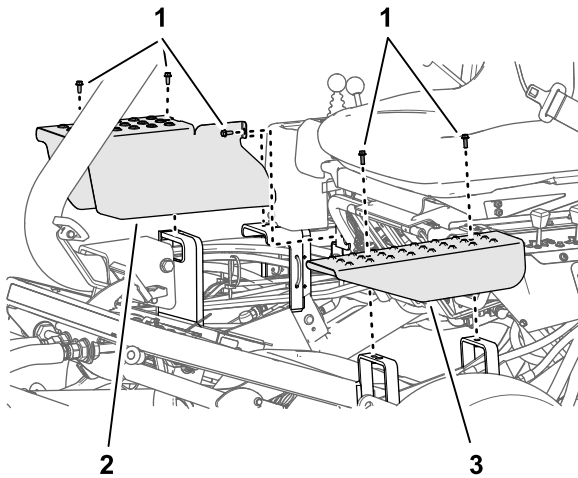

Figure 52
2. Remove the bolts that secure the cover plate of the lift cylinder that you are adjusting from the support brackets of the chassis (Figure 52).